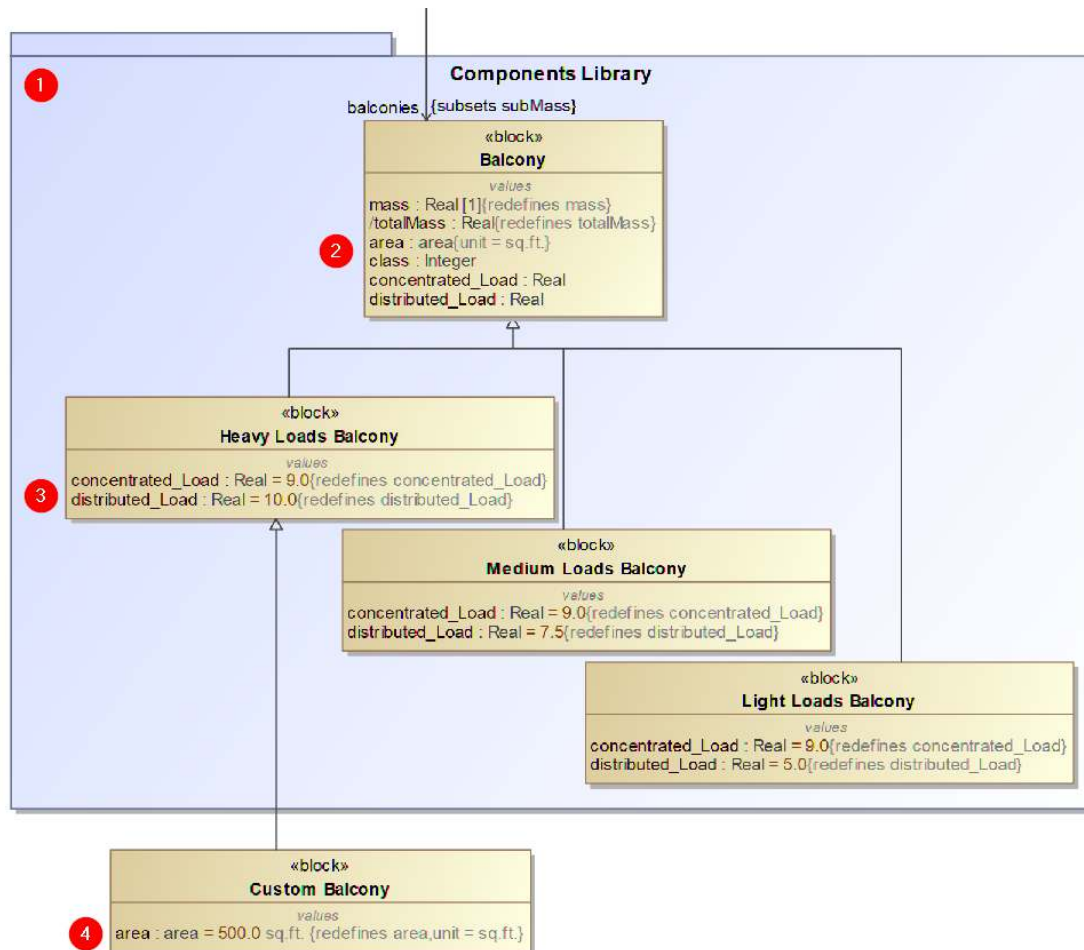

Figure 11: Typical Blocks Library
We can build a Library using a hierarchy of blocks (see Figure 11). The Library package Components Library (1) groups typical Balcony types. Specific types of balconies are inherited from an abstract Balcony (2) block. Each subtype also inherits all properties as class, area, concentrate and distributed loads. If properties are updated, they are refined in the context of subtype (3). A custom Balcony block can be created based on any library block by inheriting from it (4) in order to specify custom values as a balcony area. Note that a parametric diagram in a rollup pattern can be updated (by introducing a custom rollup pattern) to consider area, other custom properties, and custom pattern calculation logic.